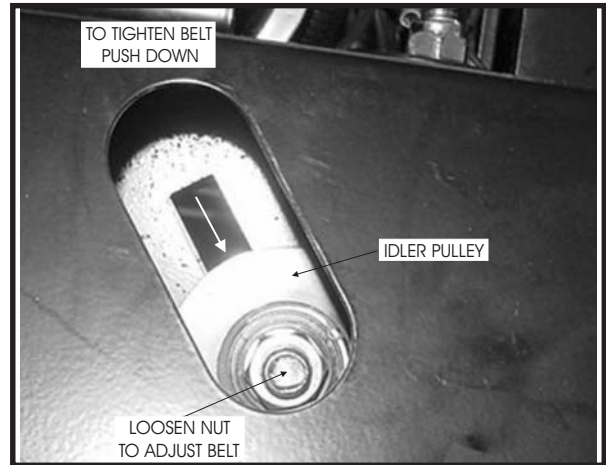

Fig. 63
2. Loosen idler pulley as shown in figure 63.